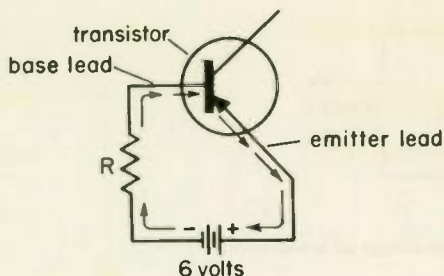

Fig. 25
2. You often must use Ohm's law to find the correct value for a resistor to use in a tube or a transistor circuit. For example, a transistor won't work right unless the correct value of d-c current (called the bias current) flows through the transistor between base and emitter, as shown in Fig. 25. Suppose that for proper operation of the transistor in Fig. 25, the bias current should be 0.003 ampere. What resistance value should be used for R in order to hold the current to the right value? You can assume that the resistance inside the transistor is negligible. 2 k Ω